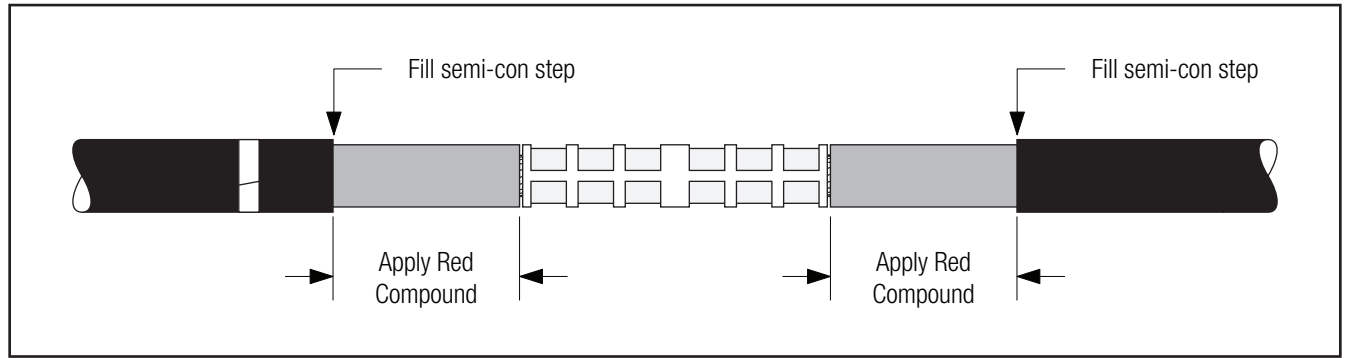

Figure 15
- 4.4 Apply red compound on cable insulations, making certain to fill in edge of cable semi-con. **Do not use silicone grease** (Figure 15).